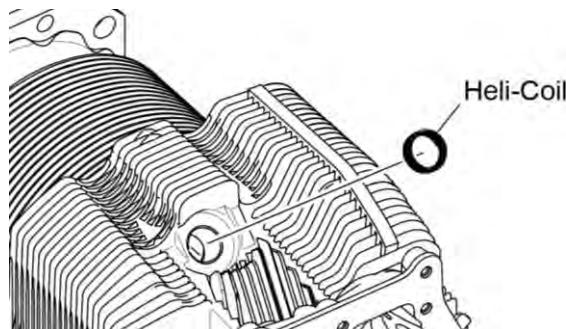

Figure 24
- A. Replace the spark plug Heli-Coil® insert (Figure 24) in the cylinder head if the threads in the spark plug hole in the cylinder are damaged (usually occurs when hard carbon on the end of the spark plug causes the insert to unwind during spark plug removal).
- (1) Disable all power to the engine to prevent propeller rotation and engine start. Disconnect ignition leads from all spark plugs.
- (2) If not already done, remove and discard the Heli-Coil® insert from the spark plug hole.
- (3) Apply a coat of grease liberally to the oversize tap 64596-1.
- (4) If the Heli-Coil® insert is replaced while the cylinder is installed on the engine, take precautions to prevent metal shavings from falling into the combustion chamber.
- (5) Turn the crankshaft to the start of the compression stroke.
- (6) Put 8 ft. (2.4 m) of 3/8 in. (9.5 mm) nylon rope through the opposite spark plug hole.
- (7) Turn the crankshaft to force the rope against the bottom of the spark plug hole that is to be tapped.
- (8) Use the 0.010 in. oversize tap, No. 64596-1 to drill a larger oversize hole for the oversize insert.
- (9) Install the new oversize 0.010 in. (0.254 mm) Heli-Coil® insert (Table 1) in the spark plug hole. Refer to Figure 24.
- (10) Remove all chips and shavings to prevent contamination from foreign object debris.
- (11) Remove the rope from the spark plug hole.
- (12) Record replacement of the standard sized Heli-Coil® insert with a new oversized Heli-Coil® insert for the applicable cylinder number.